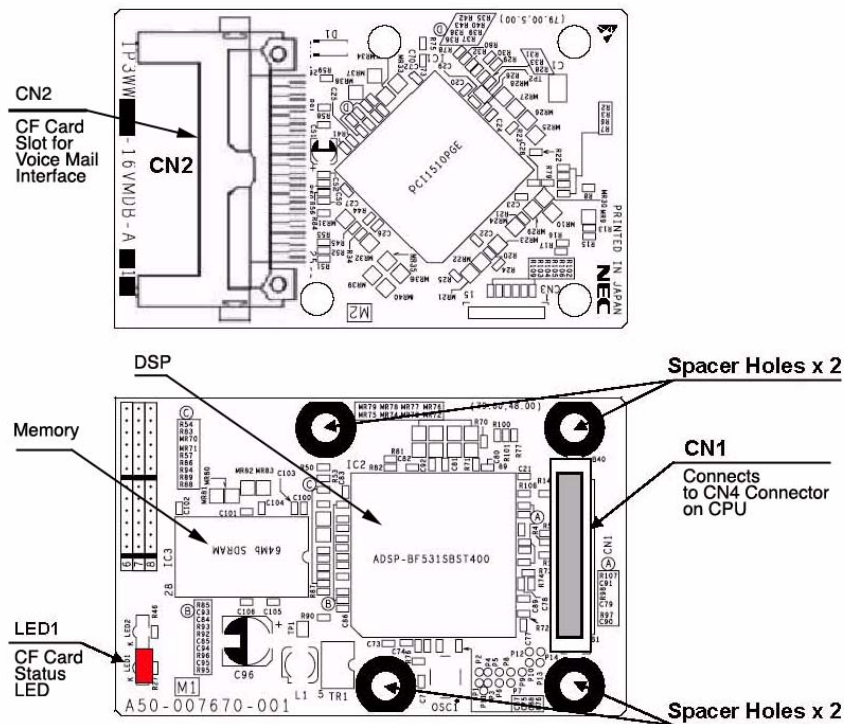
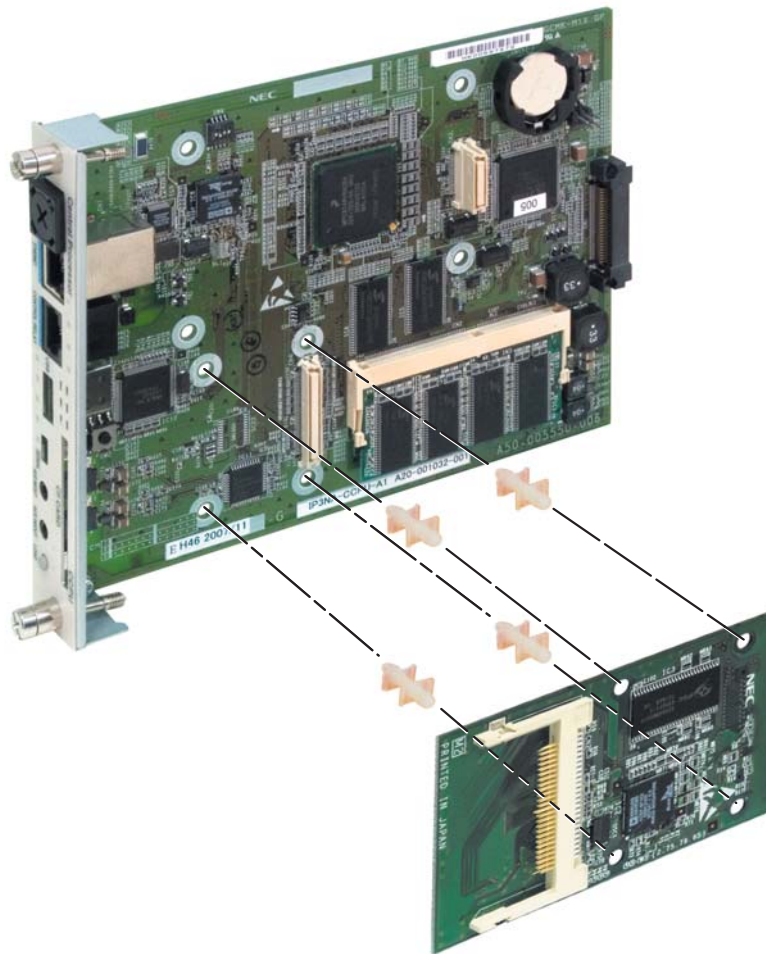

Figure 2-13: VMDB DAUGHTER BOARD
Figure 2-14: VMDB DAUGHTER BOARD INSTALLATION
2.4.4 Voice Mail Daughter Board (VMDB-B1) (Figure 2-13 - Figure 2-14) - P/N 0911026